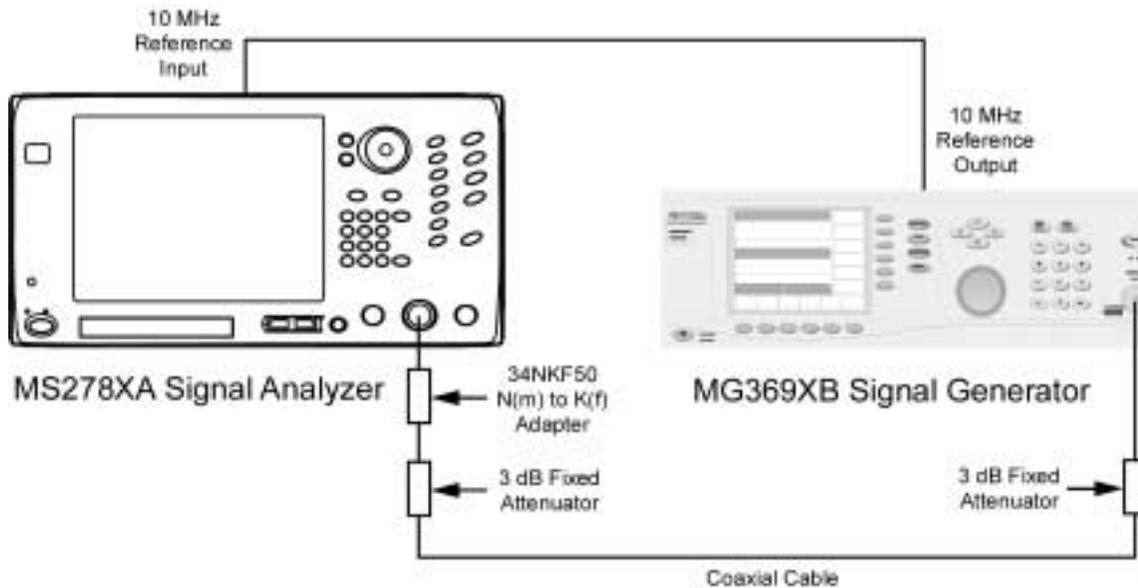

Figure 3-3. Equipment Setup for Frequency Span Accuracy Test
- Step 1.** Set up the instruments as shown in Figure 3-3.